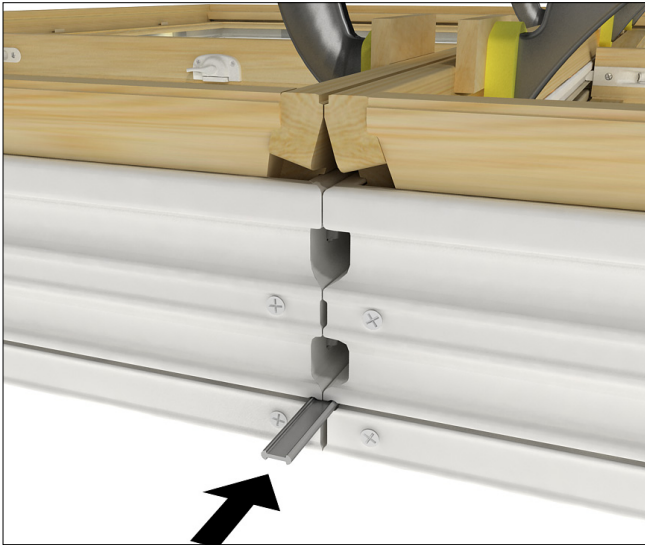

Figure 6
6. Slide the mulling pin in the full length of the mullion. A hammer may aid in the application of the mull pin. The mull pin ends must be recessed 1/4" (6) to allow sealant application later. See figure 6.